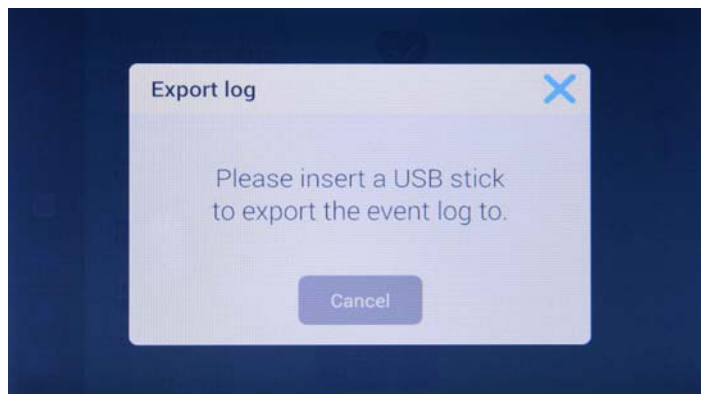

Figure 97 Export Log Screen: Missing USB Drive Alert
3. If you have not inserted a USB drive yet, the pop-up window shown in Figure 97 appears, asking you to insert a USB drive to export the log to. The window will close automatically when you insert a valid USB drive, and the export process will start.